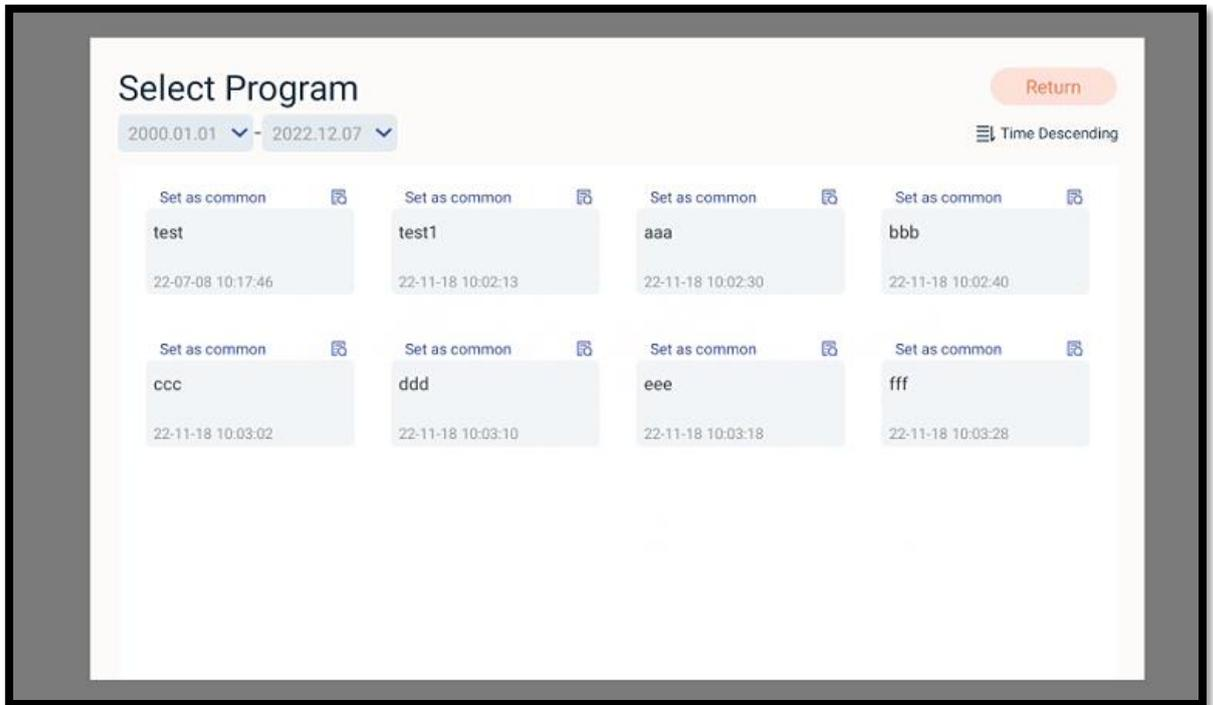

Figure 4-2-4 Select amplification program
- 4) Set up the amplification program: Click "Select a program" at the bottom of the bays to create a new amplification program (parameters such as reaction temperature, reaction time, number of cycles, photo stage, etc.). You can also choose to use the saved amplification program template (Figure 4-2-4).